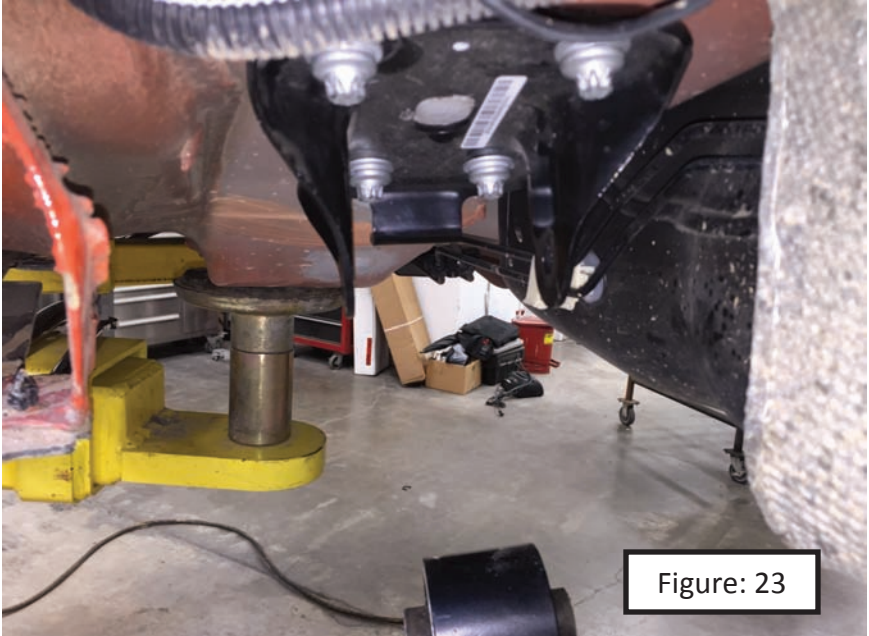

Figure: 23
47. Starting with the Driver's side remove the bolt holding the lower control arm to the uni-body mounted bracket (Figure: 23). The E-20 socket and 23mm open end wrench will be needed.